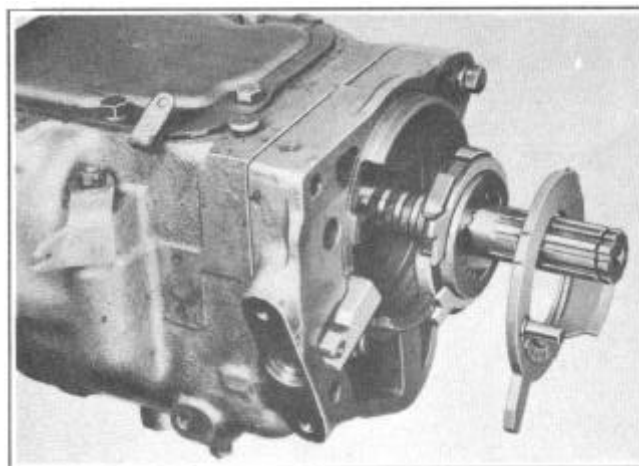

FIGURE 21
1. Position the adapter plate and fasten the adapter to the transmission case and install the solenoid pawl, sun gear control plate and blocker assembly, Figure 21.